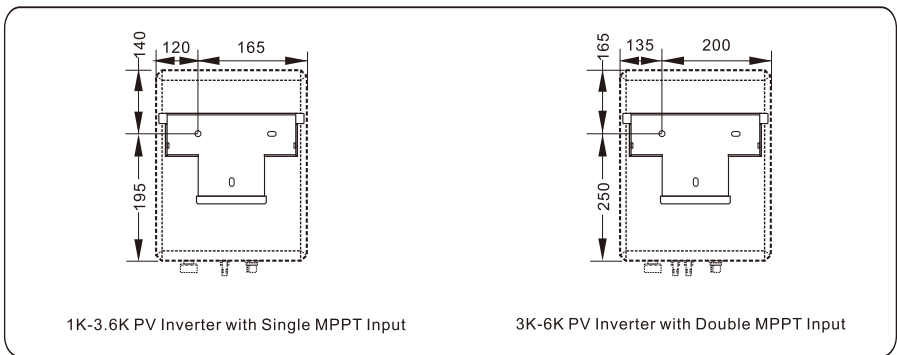

Figure 4.10 Determine the positions for drilling holes (unit : mm)
Step 2 Determine the positions for drilling holes (as shown in Figure 4.10) using the rear panel.